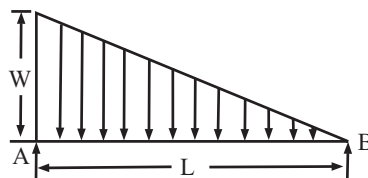

Fig 4
Q.4. Draw the SF and BM diagram for the simply supported beam loaded as shown in fig 4.